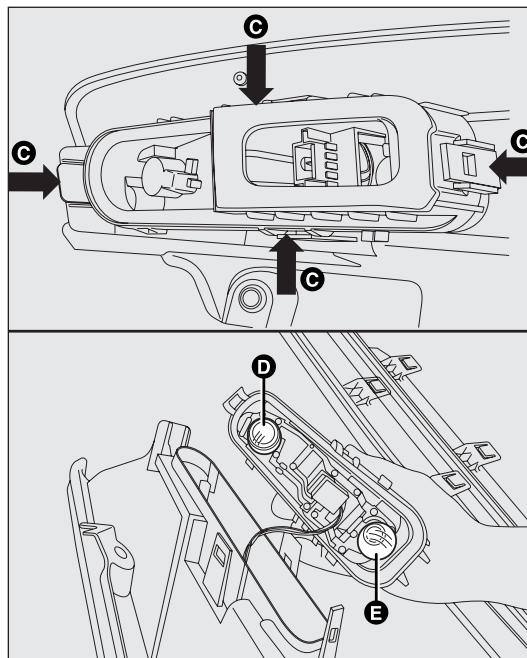

fig. 147
- detach the bulb holder by unclipping the fasteners C-fig. 147;